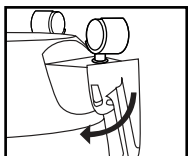

FIGURE 7
8. Apply pressure to front of hose holder to snap into place. **FIGURE 7**. Return tank to upright position.